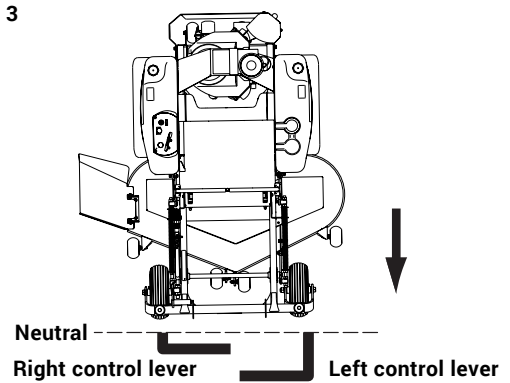

Figure 3-12
1. Move the left steering control lever farther forward from neutral than the right steering control lever and start the turn. Figure 3-12
2. Next, pull back on the steering control levers until they pass neutral and the machine starts to go rearward. Figure 3-12
3. Pull the right steering control lever farther rearward from neutral than the left steering control lever until the rear of the machine pivots around. Figure 3-12
4. Then, push the steering control levers forward until they both pass neutral and the machine starts to go forward. Figure 3-12
5. Push the left steering control lever farther forward from neutral than the right steering control lever and finish the turn. Figure 3-12